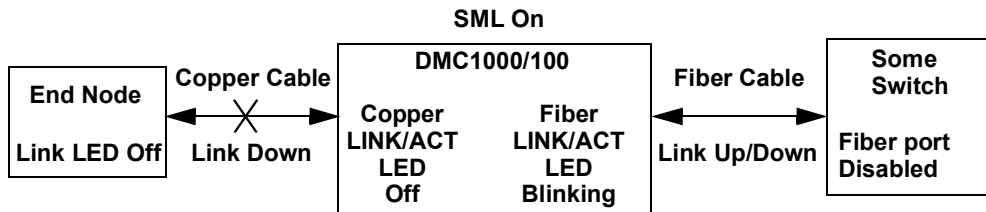

Figure 10. Possible Situation with Standalone Media Converter with SML
Figure 10 illustrates a situation where a fiber port on the media converter is connected to a certain switch. When the copper link fails, the fiber link goes up and down and the switch detects it as a problem with the fiber link. As a result, the switch disables the fiber port so that the fiber port cannot reconnect even when the copper link is back.
*This behavior may cause problems with some switches. See Figure 10 on page 24 for more information.